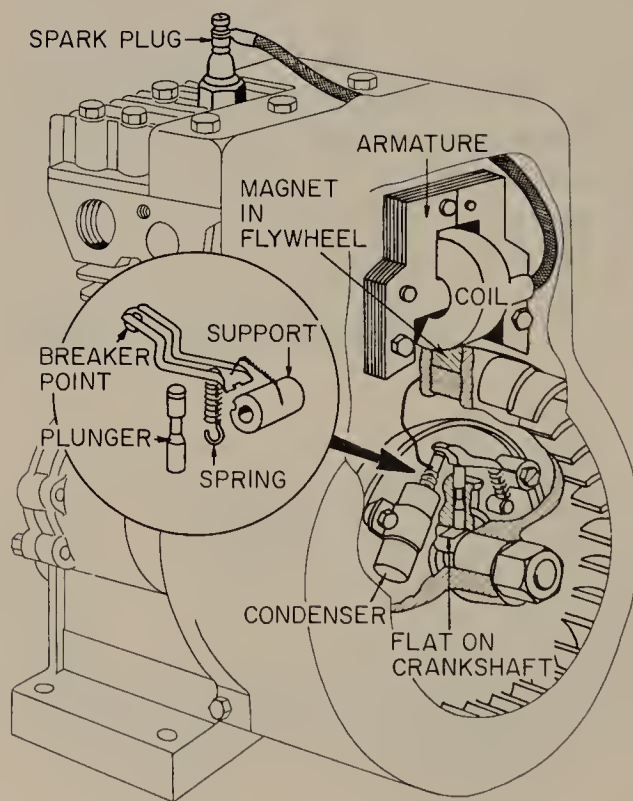

FIGURE 7.7 Cutaway view of engine, showing location and construction of the magneto. (Briggs and Stratton Corporation.)
7.8 Small-Engine Magneto Ignition Systems. Some small engines use battery ignition systems that are somewhat similar to the systems used in automobiles. Most, however, use magneto ignition systems. We will describe the magneto ignition system first. The magneto ignition system in the typical one-cylinder, two-cycle engine is built into the engine. Usually, it is located at one end of the crankshaft. The principle of operation is simple. A series of magnets are whirled past a coil of wire. The magnets are mounted on the engine flywheel. See Fig. 7.7. When magnetic lines of force move through a conductor, voltage is induced in the conductor. If the conductor is in a closed circuit, then current will flow.